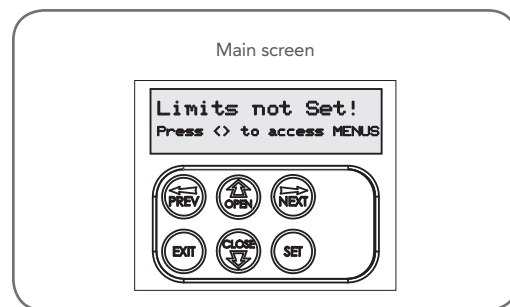

Fig 7.3
- If this is the first time the NeoSlider™ has been used, the MAIN SCREEN should indicate that the limits are not set (**Fig. 7.3**). If the display shows that some input is active then rectify the situation before proceeding. If a default setting is to be changed it should be done now before setting the travel limits.